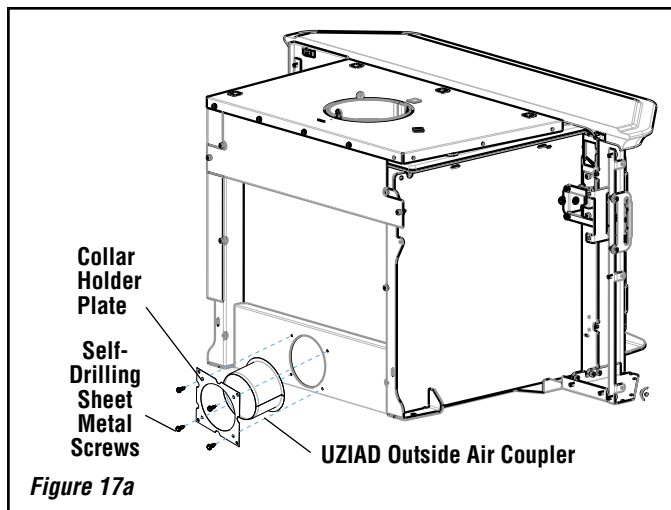

Figure 17a
Collar with Collar Holder: Center the 4" dia. collar on the air intake opening and then secure with the collar holder, using the four (4) 5/8" Tek Screws provided, lining the plate up with the capture holes on the unit. In some instances the capture holes may be absent; the tek screws should then be used to start the holes directly (**Figure 17a**).